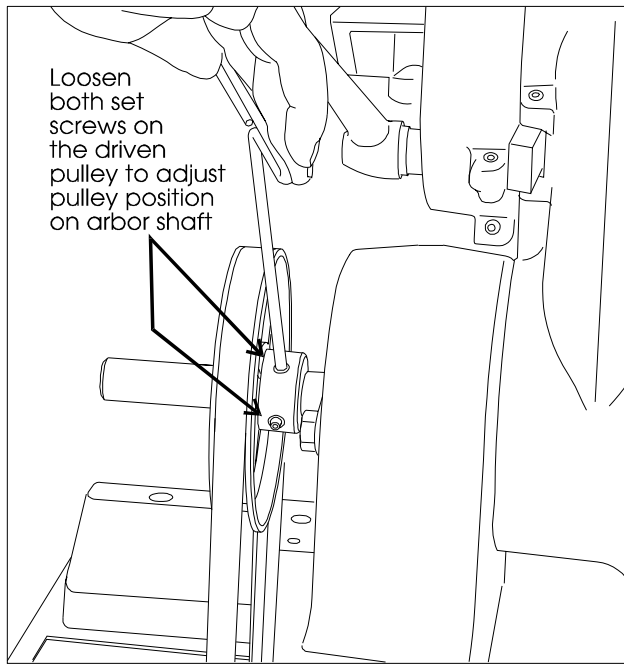

Figure 14: Loosening pulley set screws to allow the adjustment of pulley on arbor shaft.
15. Observe the alignment of the motor pulley and arbor pulley. If necessary, correct their alignment by shifting the motor slightly on its mount (which involves loosening and retightening the mounting bolts and checking tension) or by shifting the pulley slightly on the motor shaft (which involves loosening the motor pulley set screw and sliding the pulley into alignment) or by moving the arbor pulley slightly on its shaft (See Figure 14).